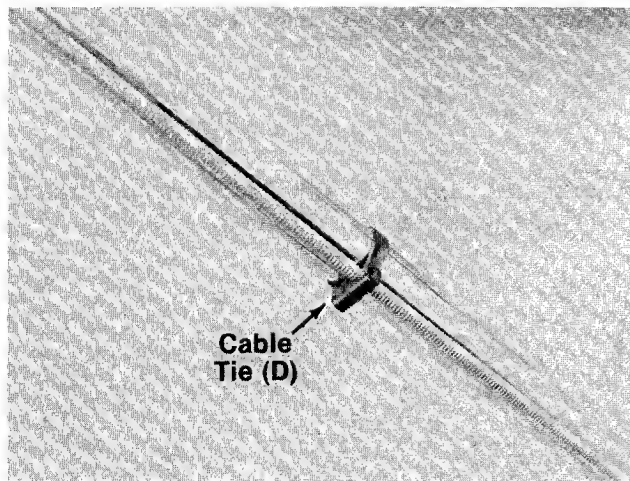

**FIGURE 4.**
- ← 5. Place the throttle control in position on right side of upper handle. Secure with hex bolt (E) and lock nut (F). See figure 4.